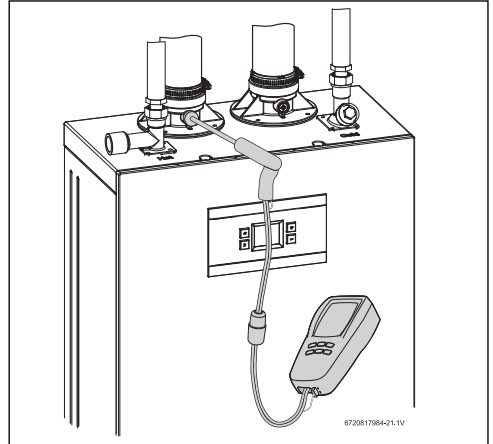

Fig. 61 CO₂ measuring port
- ▶ Remove the screw from the flue adaptor on the left side of the appliance, as seen in fig. 61.